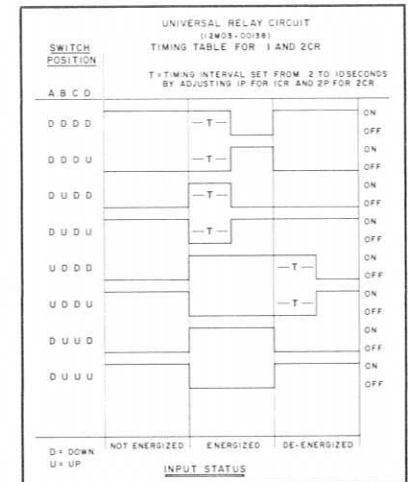

FIGURE 2
7. Jumper terminal 20 to terminal 18. After approximately 5 seconds 1CR should deenergize and 1LED will go out. This is shown on the timing table (Figure 2).
The available timing sequences include a “one-shot” variable width pulse, a timed on energization and a timed on de-energization. Details of the sequences are shown in Figure 2.